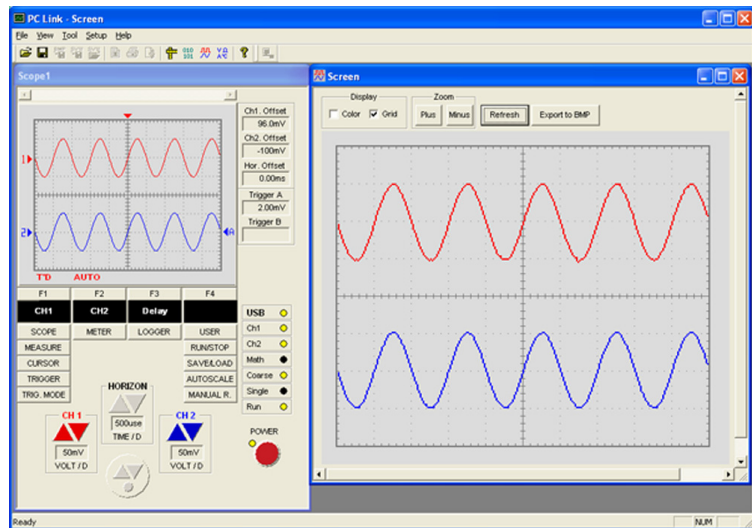

Figure 15 Screen capture window
- 3 To enable the X-axis and Y-axis grid line display, select the **Grid** check box as shown in Figure 15.